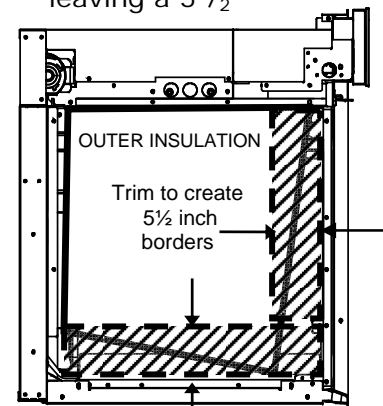
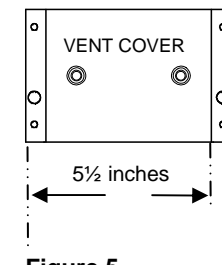

Figure 4
Figure 5
6. To begin repairing gap(s), mark and trim the existing outer insulation, being careful not to cut the inner insulation band. (The band should be positioned vertically along the front edge of the unit beneath the outer insulation.) If there is a gap at the bottom, trim outer insulation, leaving a 5 1/2" border along the bottom. If there is a gap along the side, trim outer insulation, leaving a 5 1/2" border along the side, as shown in Figure 4. Vent cover may be used as measuring tool (see Figure 5).